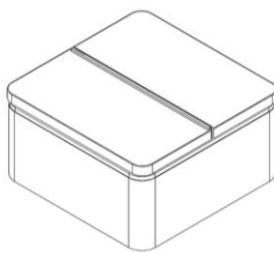

Figure 5
5. Lay the spa cover on top of the spa and center the cover evenly. See Fig 5.